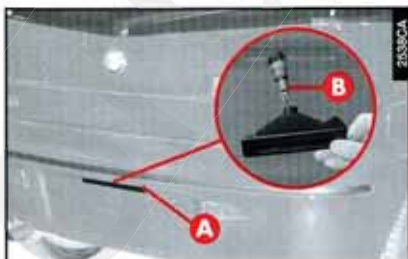

fig. 22
- Remove the bulb-holder (**A-fig. 22**).
- Replace the bulb (**B-fig. 22**) and refit the bulb-holder.